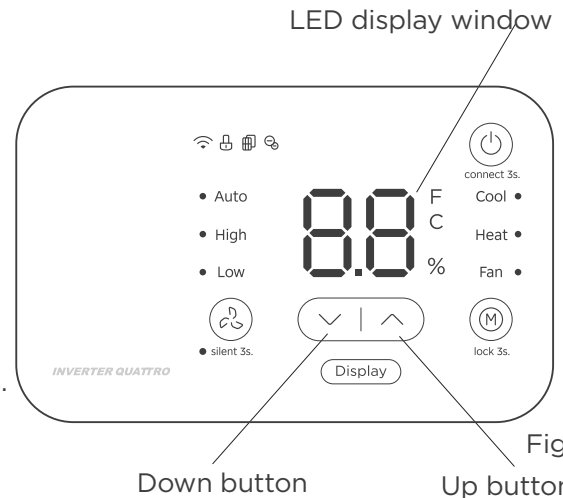

Fig. 12
- Press the up and down buttons together for 3 seconds to activate the DIP switch configurations via panel control. (See Fig. 12.)
- The LED will display Sx, Fx, (x could be 1, 2, 3, etc.) and other letters, such as ON, OF, HY, EH, etc., used to indicate the current function serial number and function switch status. (See Fig. 12.)